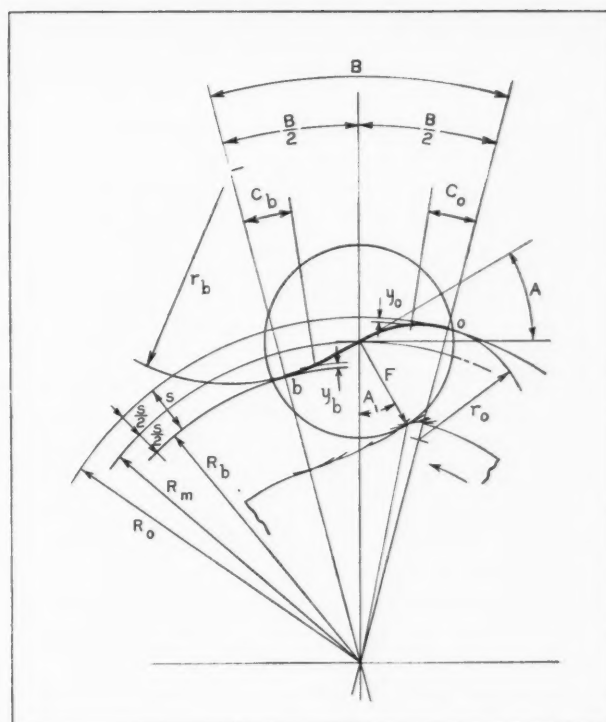

Fig. 3. Disk cam design based on the displacement diagram in Fig. 2
The cam shown in Fig. 3 has been designed for an angle  $A$  of 30 degrees at the mid point of the follower curve.
The value of  $R_o$  for the cam shown in Fig. 3 is found to be 3.558 inches, and the outside radius of the cam 3.558 inches—1 inch, or 2.558 inches. It will be noted that the radius on the cam shown in Fig. 3 at its high point is rather small. In fact, had a larger diameter than 2 inches for the follower roll been selected, the designer would have encountered cam curve interference, and the required motion with its uniform acceleration and deceleration could not have been obtained.
The radius  $r_o$  in Fig. 3 is calculated from Formula (11) to be 1.166 inches. Consequently, the radius of curvature of this cam at its high point will be 1.166 inches—1 inch, or 0.166 inch.
Without going into the allowable contact pressures on curved surfaces, we can decide to increase the value of  $r_o - F$  for the cam shown in Fig. 3, since a larger radius at its high point will obviously increase the durability of the cam.
$r_o = 1\frac{1}{2}$  inches. Using this value of  $r_o$  in Formula (13), we find  $R_o$  to be 4.142 inches, and the radius to the high point on the cam 3.142 inches which is 0.584 inch greater than for the cam shown in Fig. 3.
Examination of Figs. 3 and 4 shows the locations of the centers of the radii  $r_o$  to be such that those portions of the follower curves and cam contours which are formed by their arcs are re-entrant—that is, curved inward toward the cam center. In making accurate masters for cams having this characteristic—that is, re-entrant curves in their contour—it is necessary to calculate the path of the center of the follower roller in its radial relations to the center of the cam and its angular relations to some fixed radius on the cam. This path may be calculated from the values found for  $R_o - y_o$  and  $R_b + y_b$ .
After completing the calculations for the path of the roller follower for cams such as shown in Figs. 3 and 4, the masters are then jig bored or milled with a cutter having the same diameter as the follower